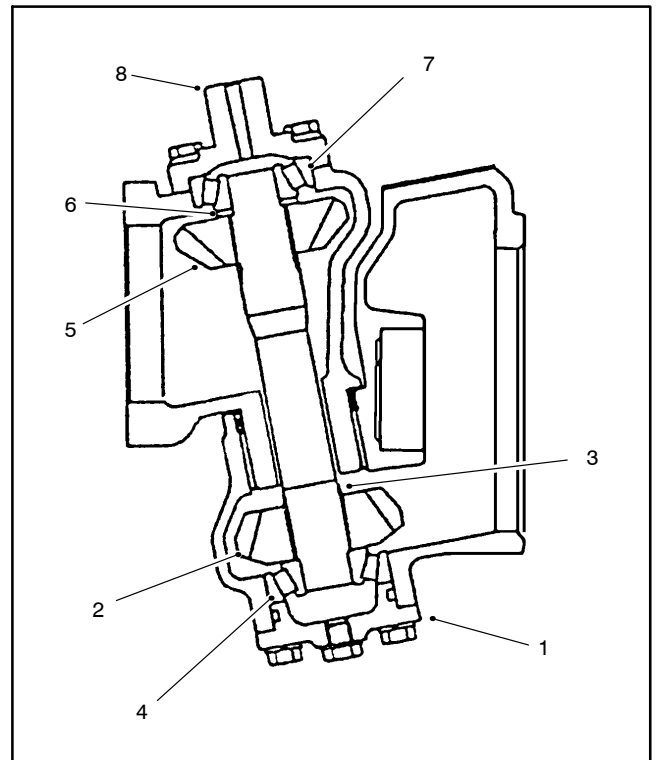

Figure 19
2. Install the lower bevel gear and bevel gear shaft in the axle case cover. Coat a new O-ring with grease and install the axle case cover (Fig. 19). Tighten cover screws from **17 to 20 ft-lb (23 to 27 N-m)**.
3. Slide the bevel gear case over the bevel gear shaft and install the bevel gear and collar. Make sure the bevel gear shaft is completely seated in the upper and lower bearings (Fig. 19).